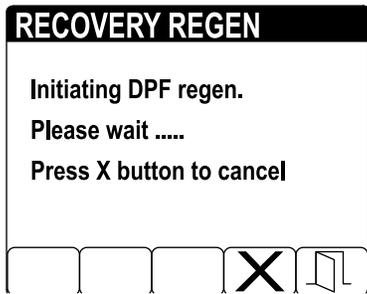

Figure 59
7. The InfoCenter displays the INITIATING DPF REGEN message (Figure 59).